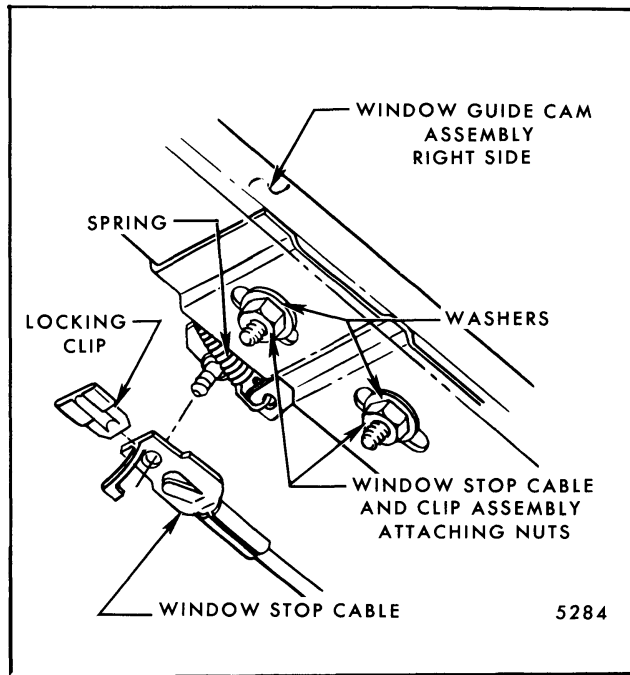

Fig. 7-95-Window Stop Cable and Clip Assembly Attachment
**NOTE:** On styles equipped with a manual tail gate disengage upper end of window stop cable and clip assembly prior to removing guide attaching bolts (Fig. 7-95).